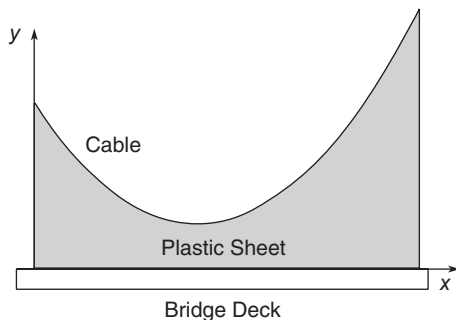

Figure P29
29. The shape of a cable hanging with no load other than its own weight is a *catenary* curve. A particular bridge cable is described by the catenary  $y(x) = 10 \cosh[(x - 20)/10]$  for  $0 \leq x \leq 50$ , where  $x$  and  $y$  are the horizontal and vertical coordinates measured in feet. (See Figure P29.) It is desired to hang plastic sheeting from the cable to protect passersby while